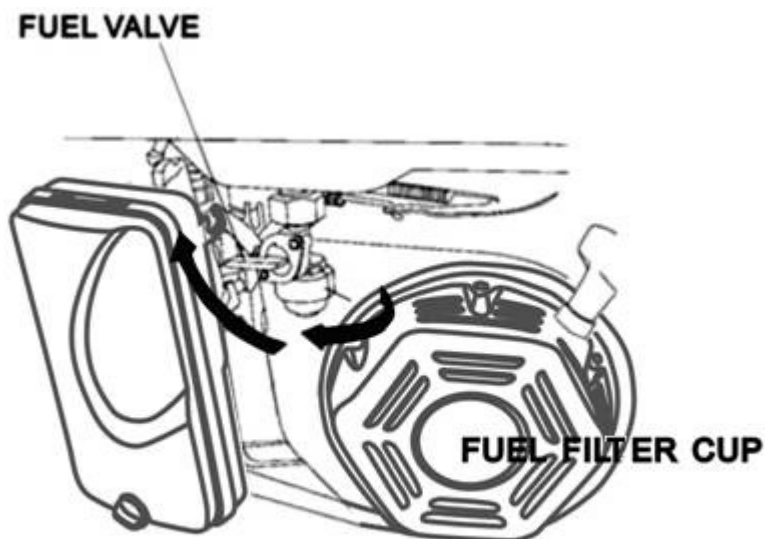

Figure 15 - Removing the Fuel Filter Cup
2. Unscrew the fuel filter cup from the fuel valve using a wrench. (Turn the valve toward you to unscrew as illustrated in Figure 15.)